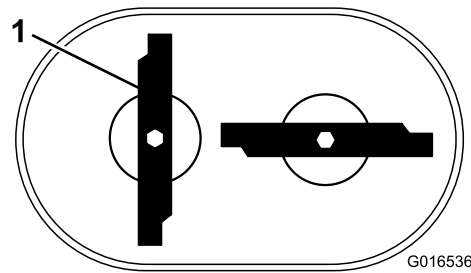

Figure 39
**Note:** The blades should be perpendicular, forming an inverted “T” as shown in Figure 39.